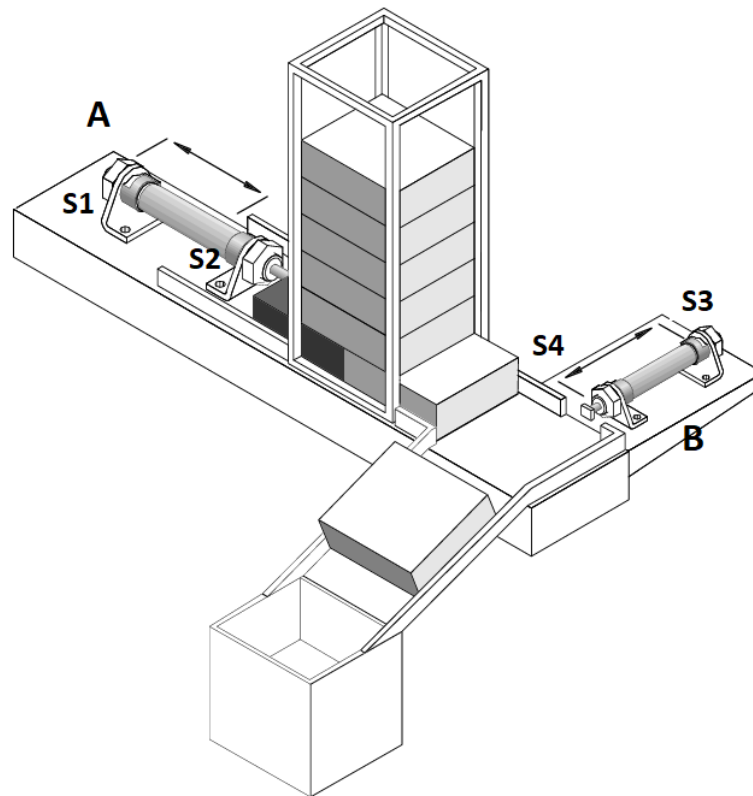
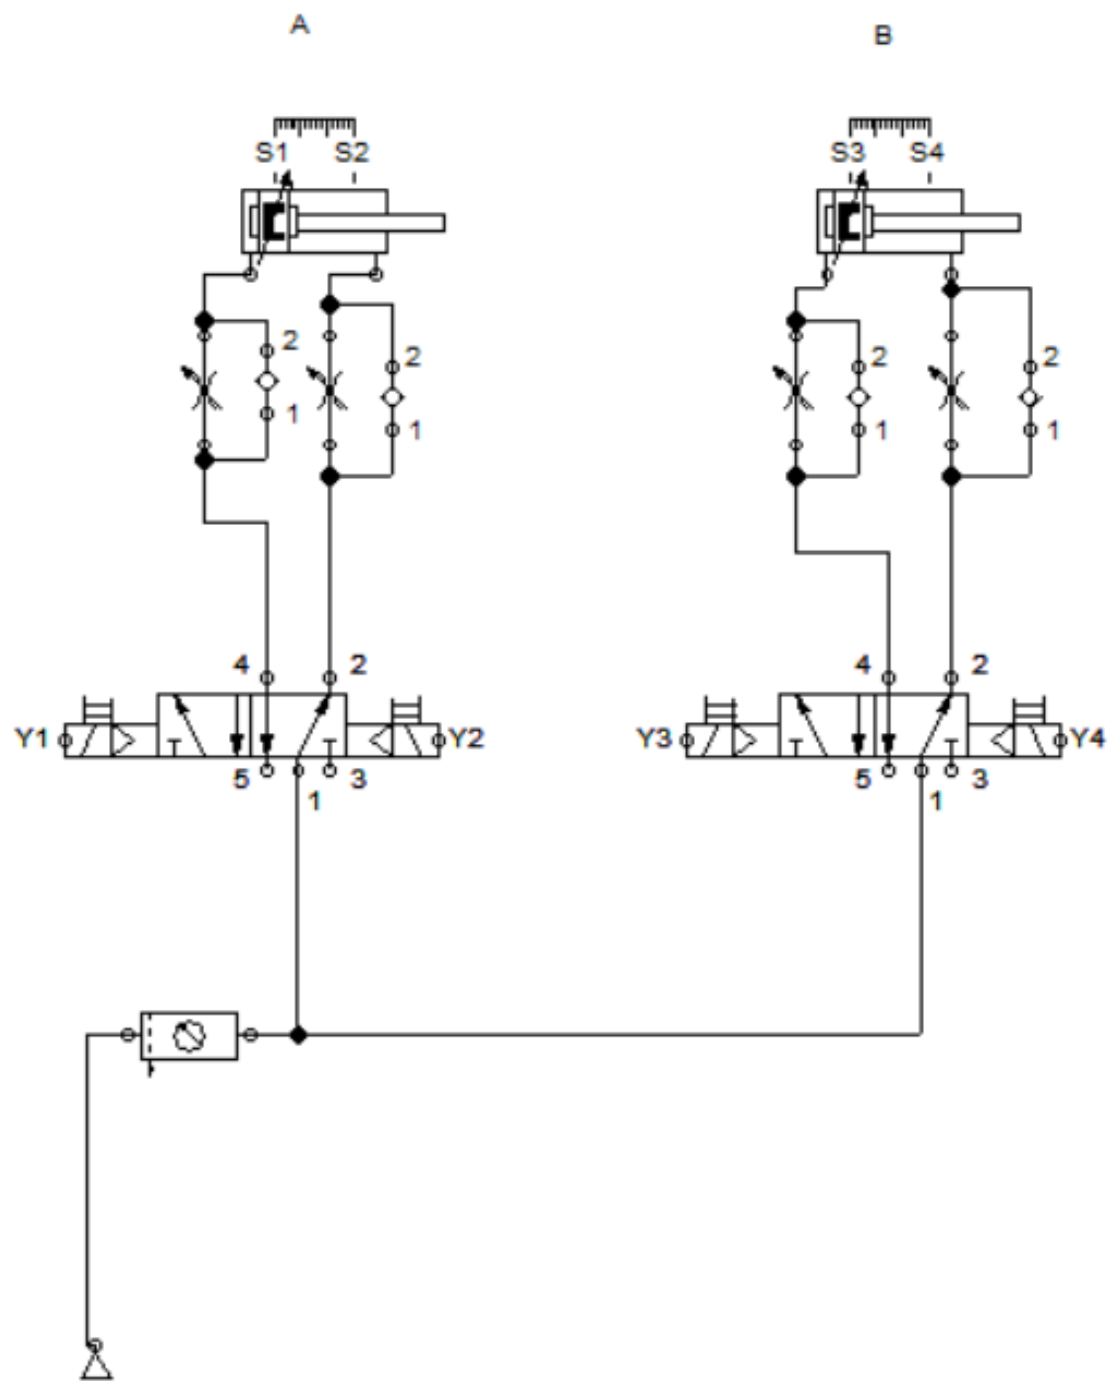
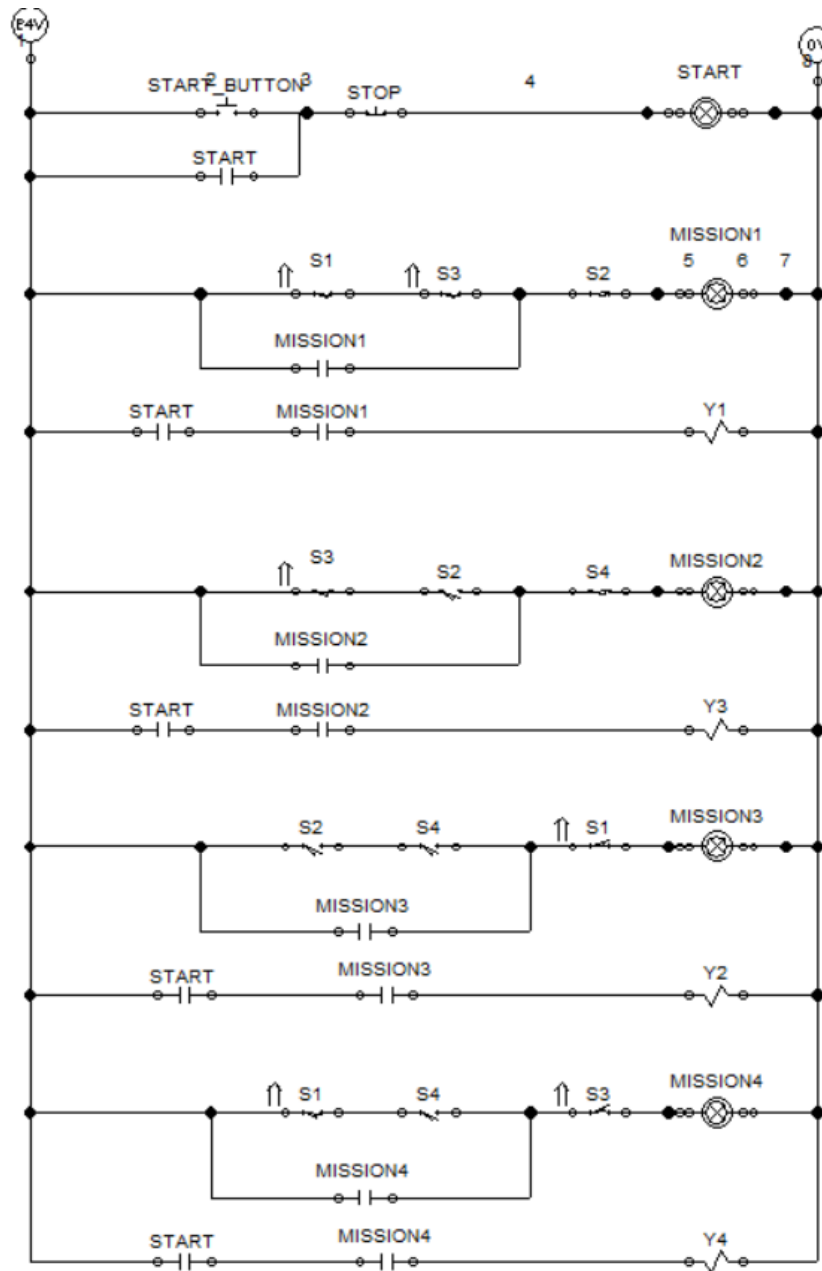

Figure 1
Figure 2
Figure 3
- (b) The following automated system (Figure 1) is used to transfer engine body parts from a magazine onto a chute. When push button is pressed, the first cylinder extends, pushing part from the magazine and positions it in preparation for transfer by the second cylinder onto the out-feed chute. Once the part is transferred the first cylinder retracts followed by the second. Figure 2 shows the pneumatic circuit design for this system and Figure 3 shows the PLC ladder logic program written for this process.